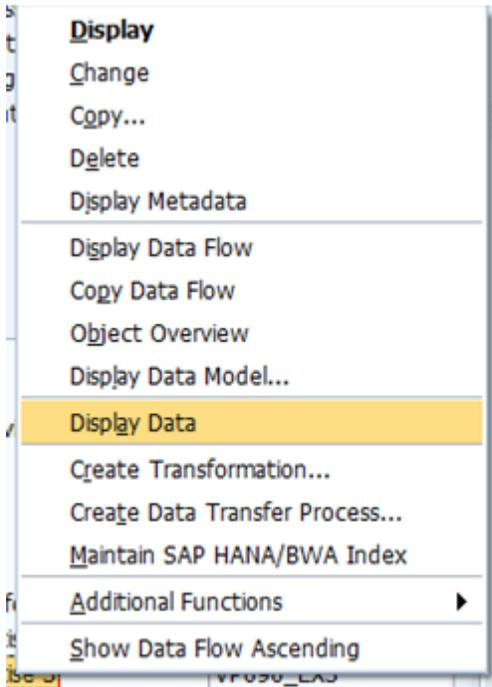
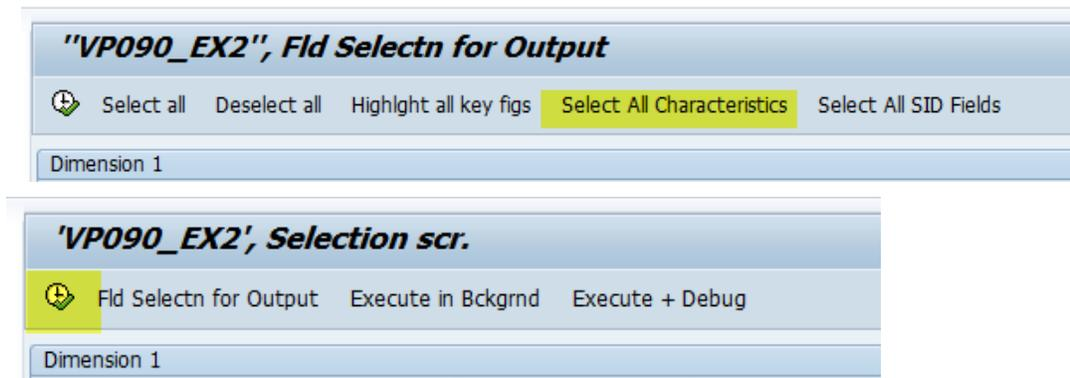

Figure 32 – Choose 'display data'
Figure 33 – Selection screen for display data
2.9 **Verify data in the virtual infoprovider** – In order to verify correct operation of the virtual provider, locate the virtual provider, highlight and right click, choose Display Data as shown in figure 32. This will present you with the selection screen. In the selection screen, select all key figures and characteristics as shown in figure 33 and execute. This will show you the data in the virtual infoprovider